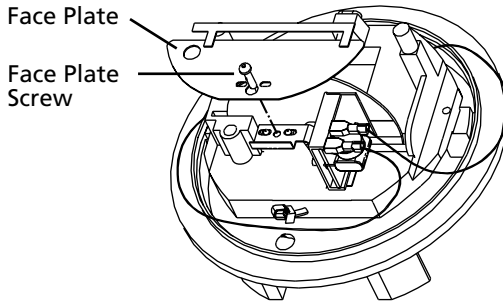

Figure 38. Attaching Face Plate
9. Attach the face plate and tighten the screw. See Figure 38.